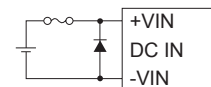

Fig.3.3 Reverse Input Voltage Protection
(5) Reverse Input Voltage Protection
- Avoid applying reversed-polarity voltage to the power module as it will damage the power module. To protect the power module from reversed polarity voltage, installing an external diode as shown in Fig. 3.3 is recommended.